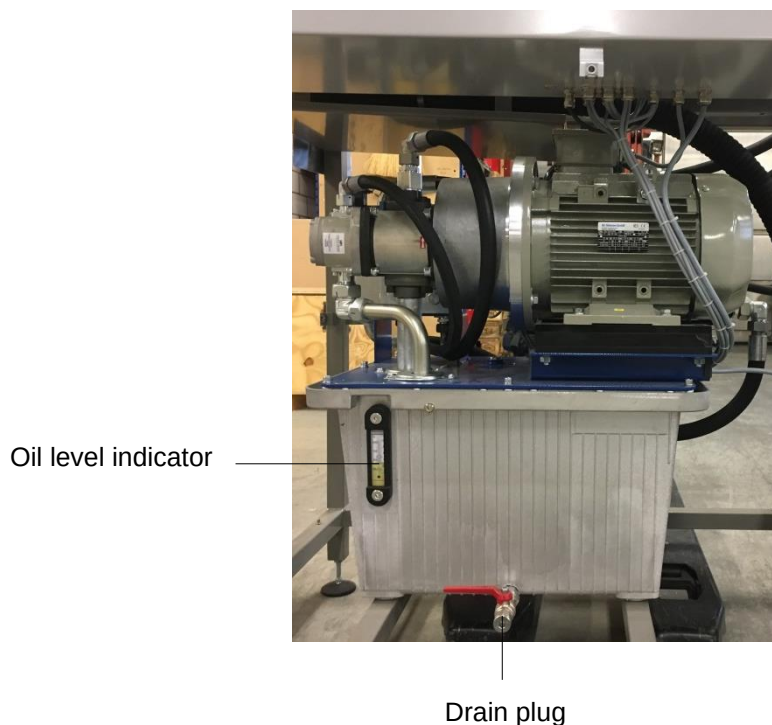

Fig. 52
- Close filler neck cap. Start the pelletizer and monitor the oil level at the sight glass (fig. 52). Refill if necessary.
- Loosen the drain plug (fig. 52) and drain the oil into the container.
- Start the pelletizer and check the oil level through the sight glass (fig. 52). If necessary, add oil through a filtering unit with a mesh size of 10 µm or less.